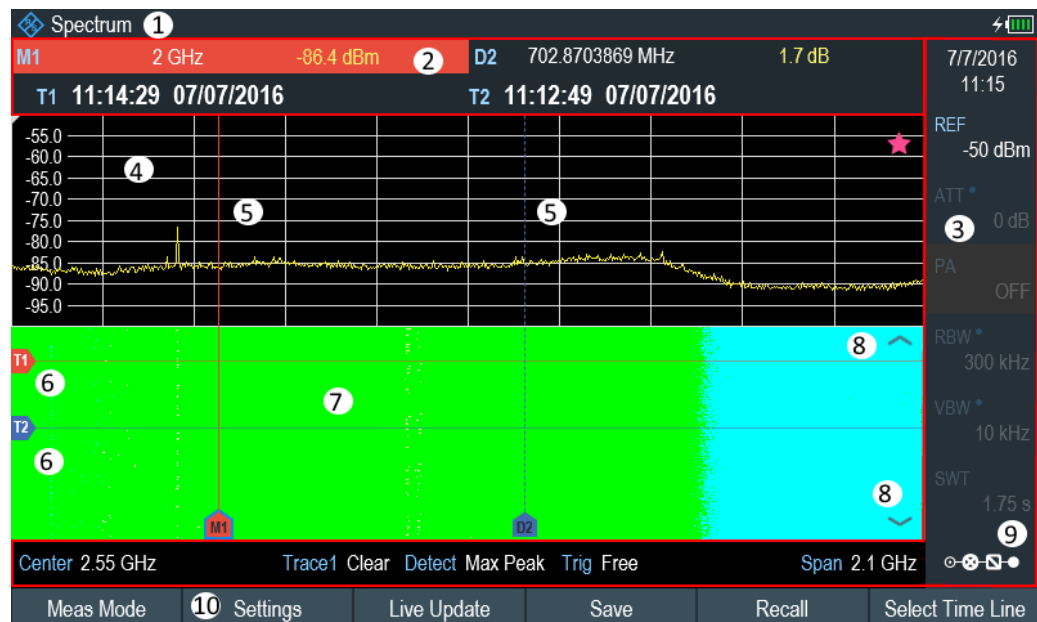

Figure 6-8: Screen layout for the spectrogram
5. To evaluate the measurement result, scroll up and down on the spectrogram scrollbar icon (see index 8 of Figure 6-8) to the frame that you are interested to view.